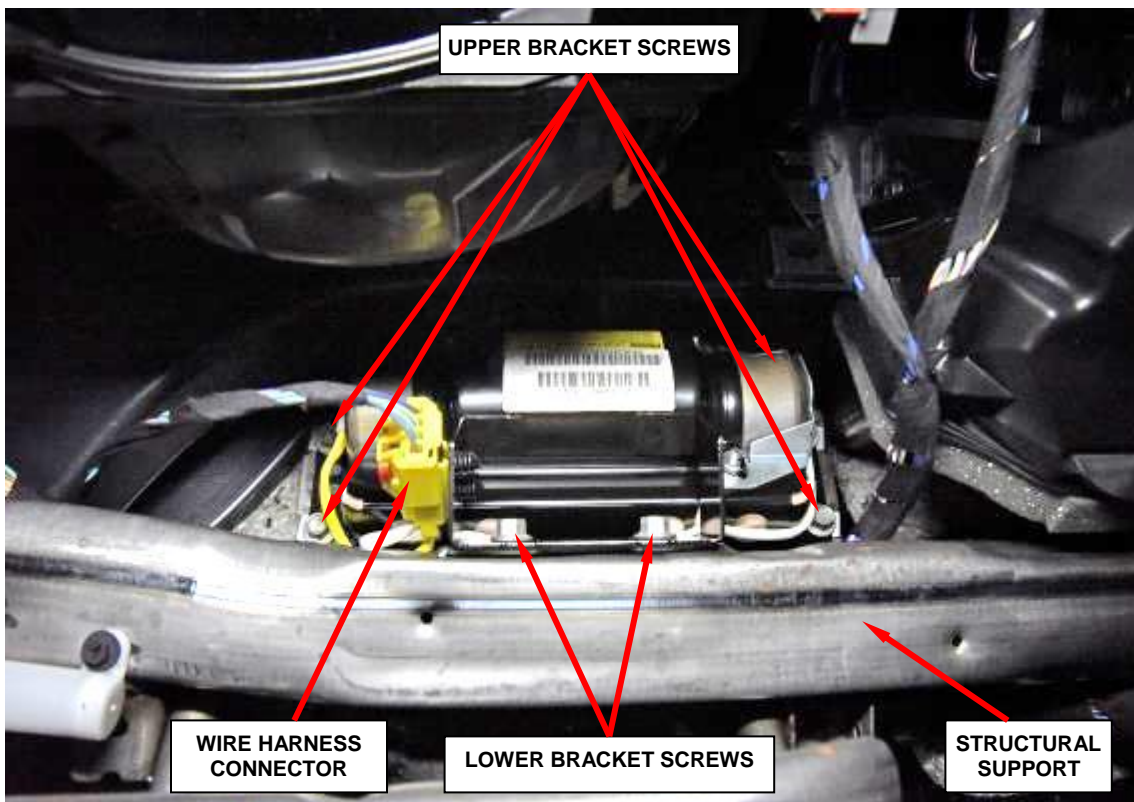

Figure 66 – PAB Housing, Inflator and Cushion to be Removed a Unit (View through Glove Box Opening)
29. Disconnect the instrument panel wire harness connector from the PAB pigtail wire connector (Figure 66).
30. Remove the two screws that secure the PAB lower bracket to the instrument panel structural support (Figure 66).
31. Remove the four screws that secure the PAB upper brackets to the sides of the PAB retainer or chute on the underside of the instrument panel cover (Figure 66).